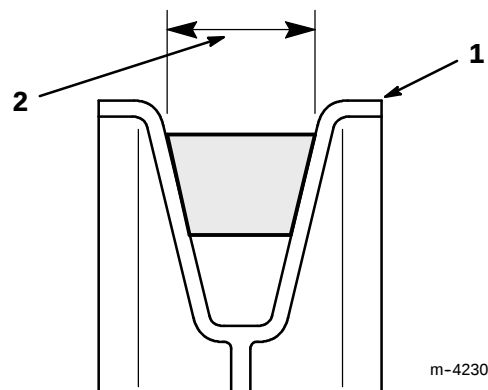

Figure 11
7. Make certain that the wide side of the PTO drive belt is toward the outside diameter of **all (four)** pulleys (Fig. 11).